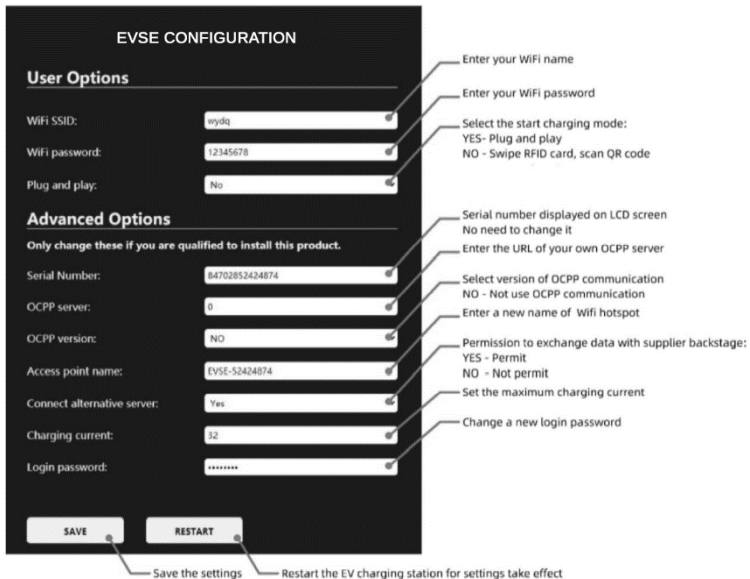

Fig 6-7 EVSE configuration page
- 7) Once password is verified the EVSE configuration page shall be displayed per Fig 6-7 below.